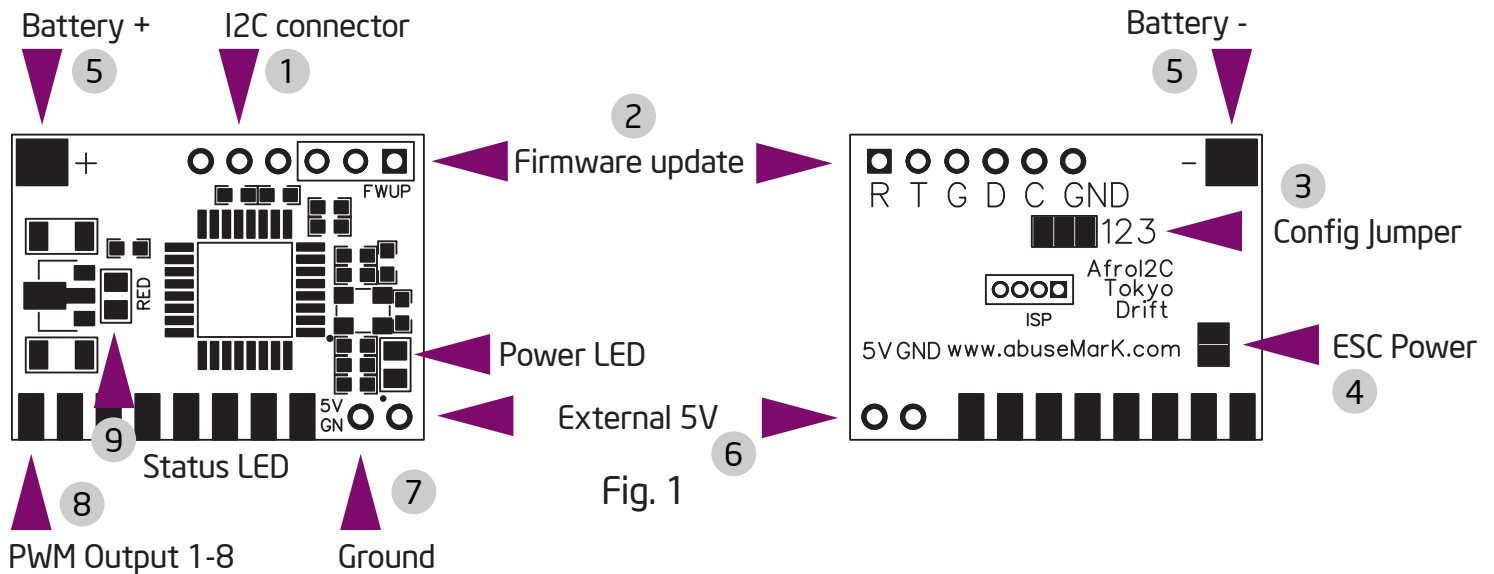

Fig. 1
1. Disconnect I2C plug from the board (Fig.1 1)
4. Status LED (Fig.1 9) will blink, while controllers will make calibration beep sounds.
On power-up the Status LED (Fig.1 9) blinks rapidly for a few seconds, then blink more slowly to count the number of configured motors. If motor data is received from FC, Status LED will remain off. If I2C connection is interrupted (cable removed for example), motors will be put to emergency throttle setting (default 0) and Status LED will light.
1. Connect Standard ESC to PWM Output pins 1-8 (Fig.1 8)
3. After typing in the update command, without pressing <Enter>, power up the board and press <Enter> key while the Status LED (Fig.1 9) is flashing.